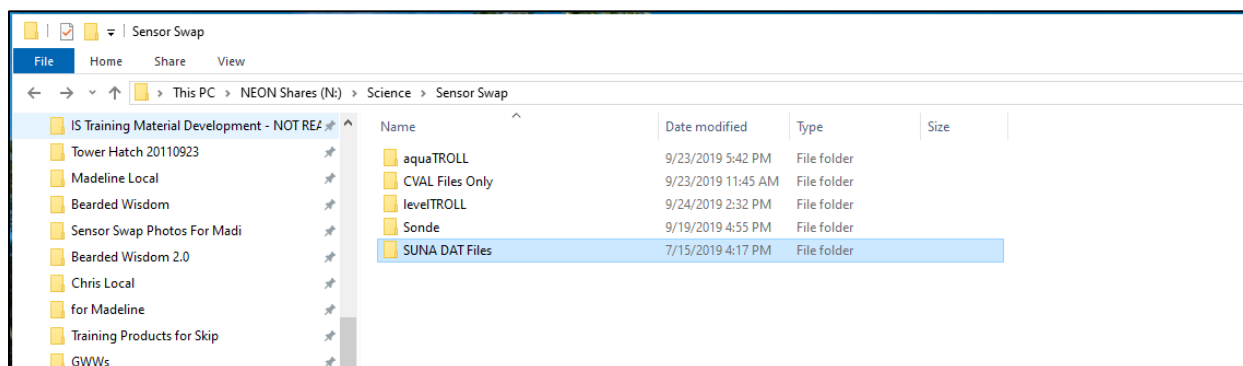
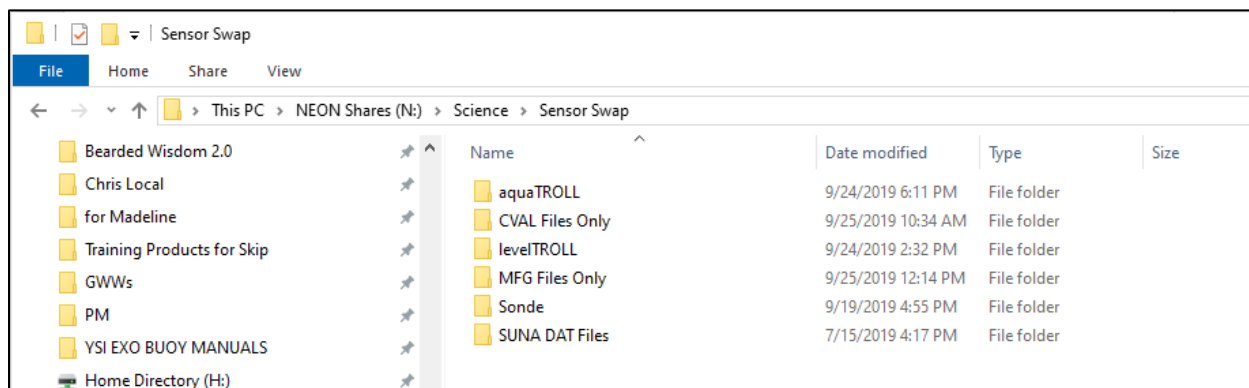

Figure 13. N:\Science\Sensor Swap
Figure 14. CVAL Files Only and MFG Files Only Folder
1. After returning to the Domain Support Facility or via VPN, change the name of the DAT files to “**SITE_ASSET TAG_DYYYYDDD.csv**” and save a copy of each .csv data files to the Network drive in the following folder (Figure 13): **N:\Science\Sensor Swap\SUNA DAT Files**
- Field Science must drop the files in the **SUNA DAT Files** folder shown in Figure 13 under the prescribed naming convention above. CVAL files go into the **CVAL Files Only** folder and Manufacturing files go into the **MFG Files Only** folder (Figure 14).